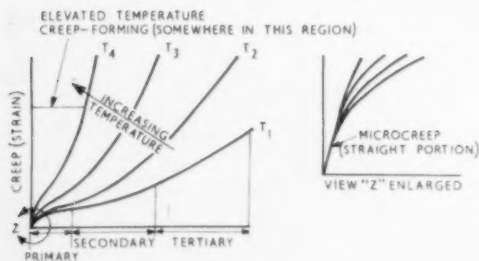

Fig. 7 (left).—Typical creep curves for metals (constant applied stress)
Creep in metals is generally illustrated with a graph as shown in Fig. 7. Creep is a term applied to metals where flow is attained at rates slower than slip. Provided the applied stress is sufficiently high, there will be three stages of flow for a given temperature: (1) primary creep, where the flow begins rapidly but later slows down, (2) secondary creep: when the part becomes adjusted to the load, and a steady deformation persists, and (3) tertiary creep, evidenced by a rapid increase in flow until failure occurs.